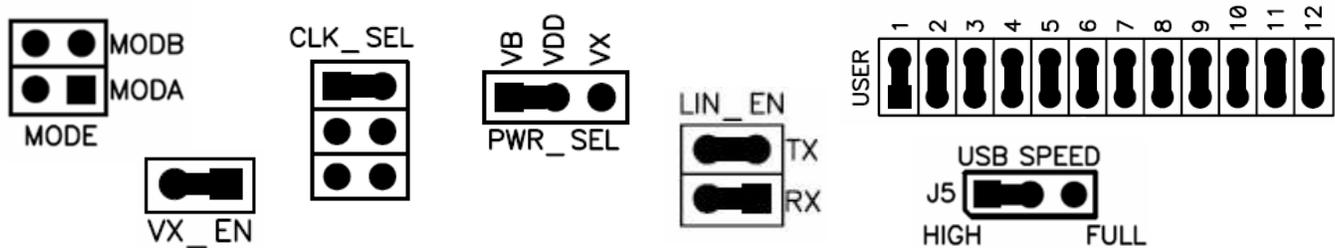

Figure 1. DEMO9S12XDT512 Default Settings
Figure 1 shows the default settings for the DEMO9S12XDT512 demo board. Please refer to the DEMO9S12XDT512 User’s Guide on the Axiom CD for information on other configurations. Black blocks indicate the “on” or “installed” position of jumpers. Please check these settings before continuing.
1. Check the jumper settings and make sure they are in the default position. Use Figure 1 as a guide.
4. Check the jumper settings and make sure they are in the default position. Use figure 1 as a guide.
- Make sure all the jumpers on the board are in the default position. Refer to Figure 1.